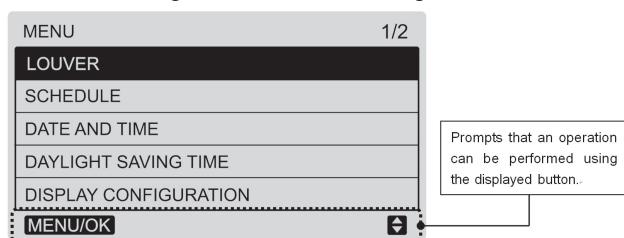

Fig. 15 — Menu Prompt
**Menu Operations** — Press MENU/OK  to open the menu. See Fig. 15 below for an example.